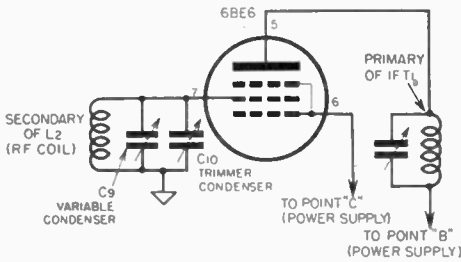

Fig. 8-30. Mixer circuit.
g) *Mixer Circuit.* See Figure 8-30.